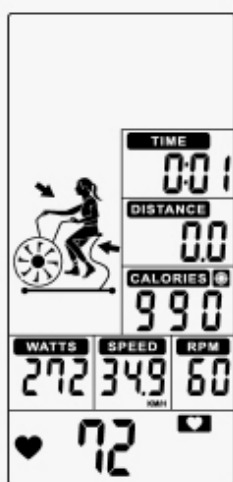

Figure 44
- Pre-set CALORIES value counts down, TIME, DISTANCE, WATTS, SPEED & RPM start to count up. (Figure 44)